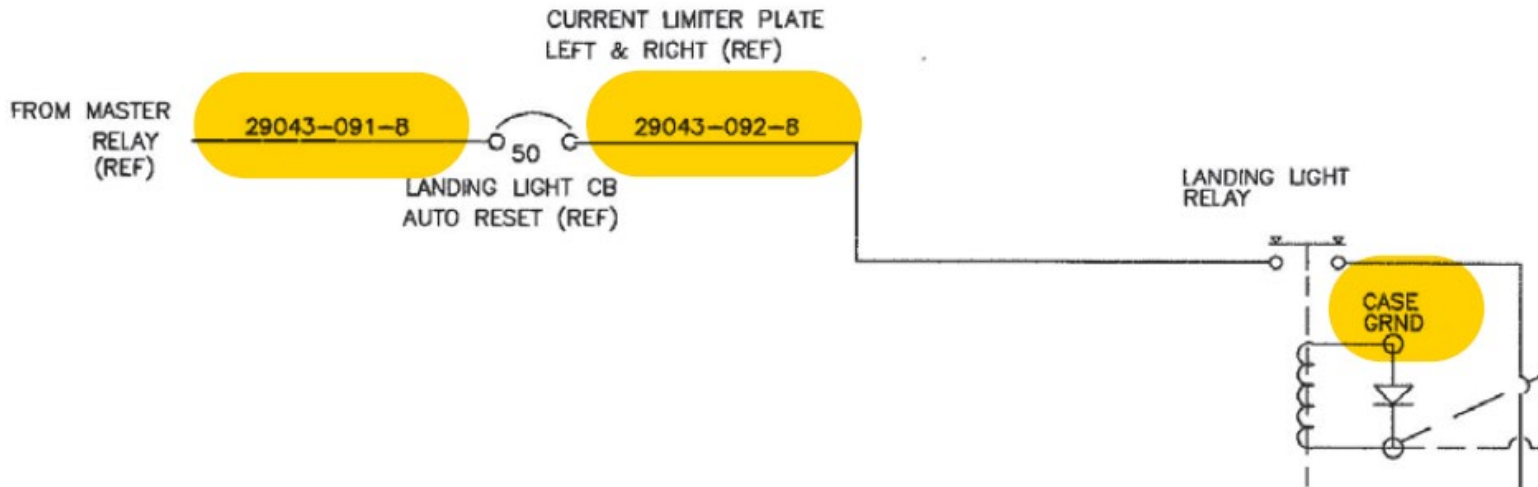

Figure 18: Master Relay, 50 Amp Circuit Breaker on Battery Plate, Landing Light Relay and Case Ground Wires
23. Connect 29043-091-8 wire to Master Relay and 50 Amp Circuit Breaker (PDLA-50) on battery plate. Connect 29043-092-8 wire to 50 Amp Breaker on battery plate and to Landing Light Relay. Connect 24 AWG wire (4 inch length) to Case Ground on Landing Light Relay. Refer to Figure 18.